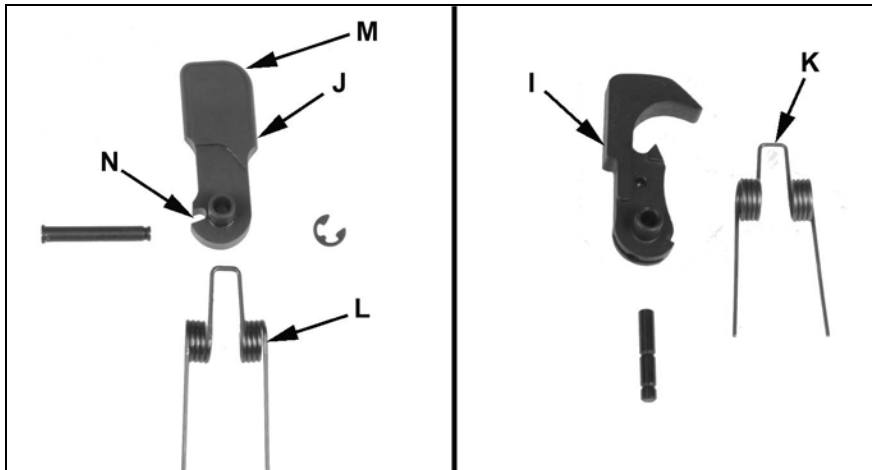

Figure 3
4. Remove the stock AR hammer (I) and replace with the Safety Harbor hammer (J). Replace stock AR hammer pin with anti-walk pin and clip provided. If your AR spring (K) does not have enough striking power, use the Safety Harbor spring (L). See figure 3.